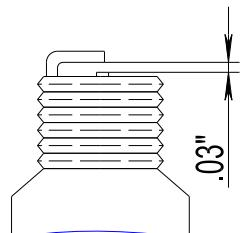

FIG 26
**6.9.4** Set the gap between the electrodes on the spark plug at 0.03 inch (0.76mm). (FIG 26)